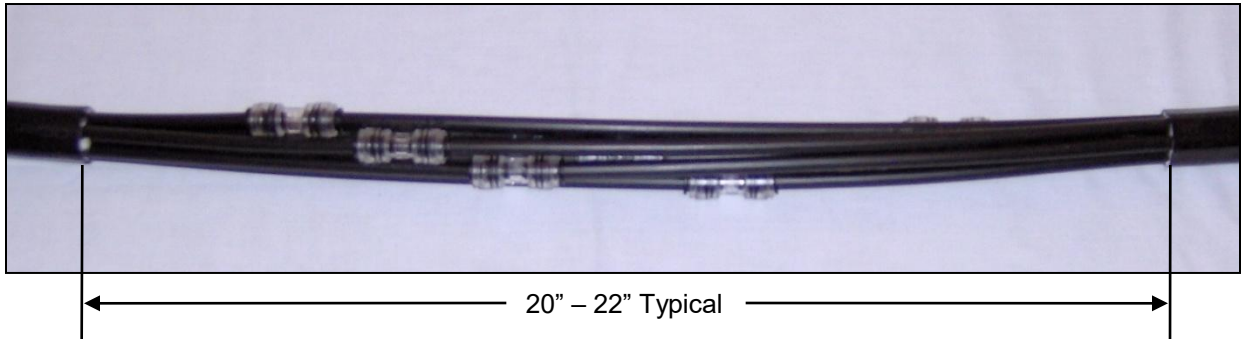

Figure 18
9.17 After all tubes are coupled, make final adjustments to tube and tube cable positions and secure in place to complete the installation. (See Fig. 18 for an example.)